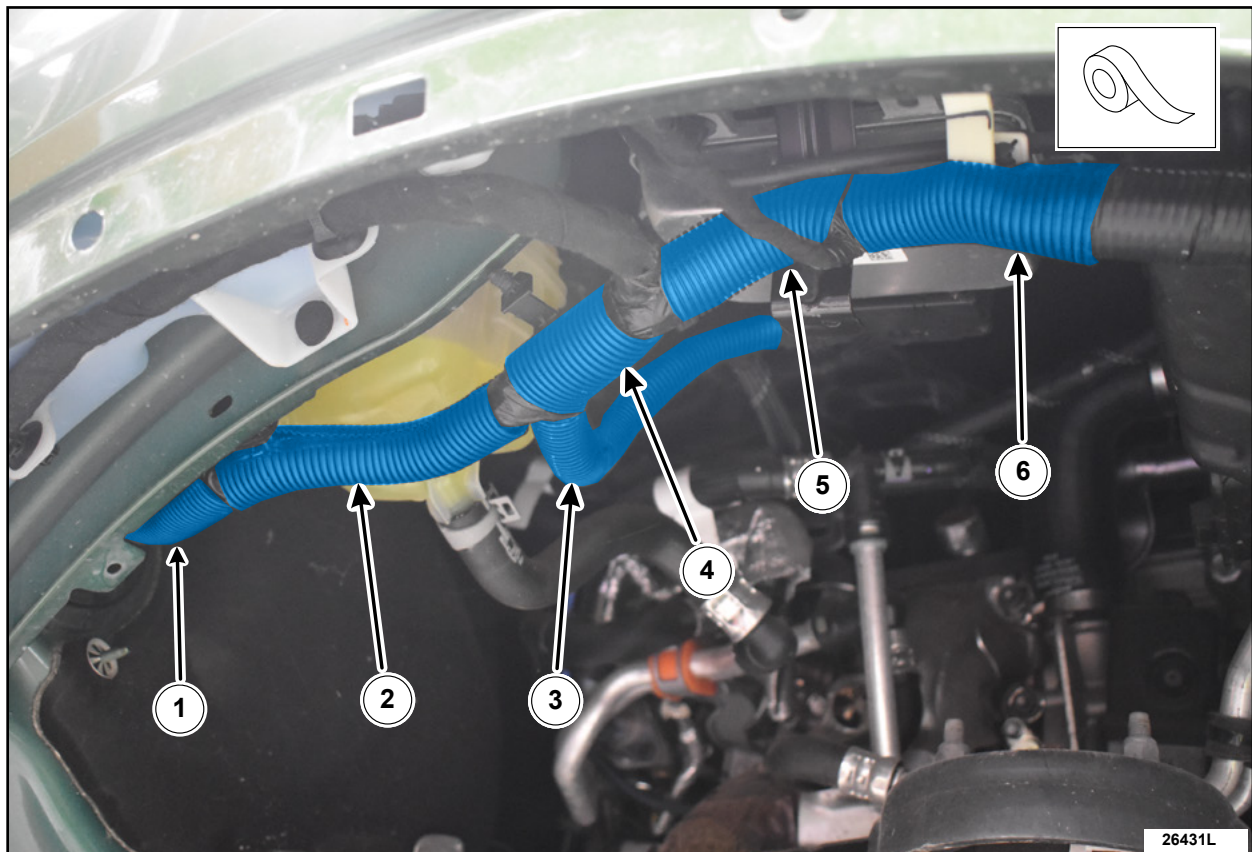

FIGURE 10
- *Only cut 1 piece, 3.5 in (8.89 cm) length - 1.25in (3.175 cm) diameter convolute tubing for location (1).* See Figure 10.
- All six pieces are required for this repair. See Figure 10.
19. Install the convolute tubing over the inspected areas of the wire harness, then secure it in place using Coroplast® tape. See Figure 10.